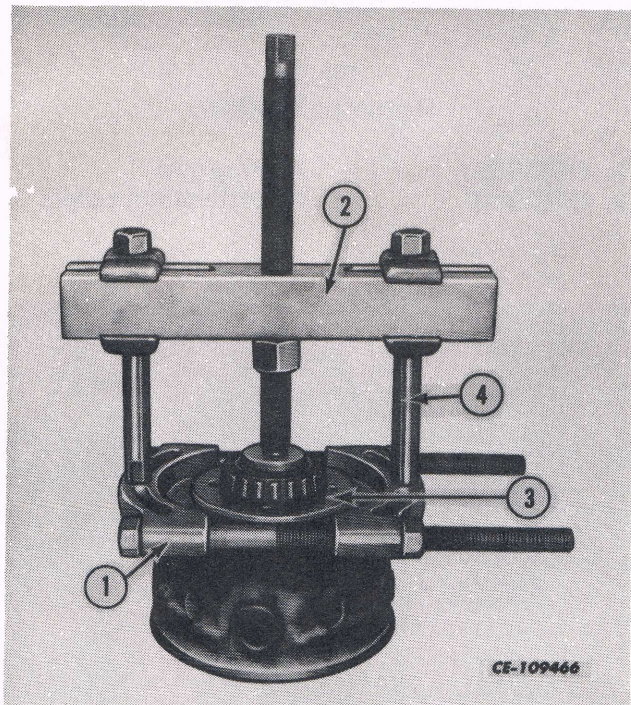

Fig. 10
5. Using OTC-952A puller (1) with bridge 938 (2) and legs 930-E (4), remove the tapered roller bearing and differential lock ring (3) from the carrier. See Fig. 10.